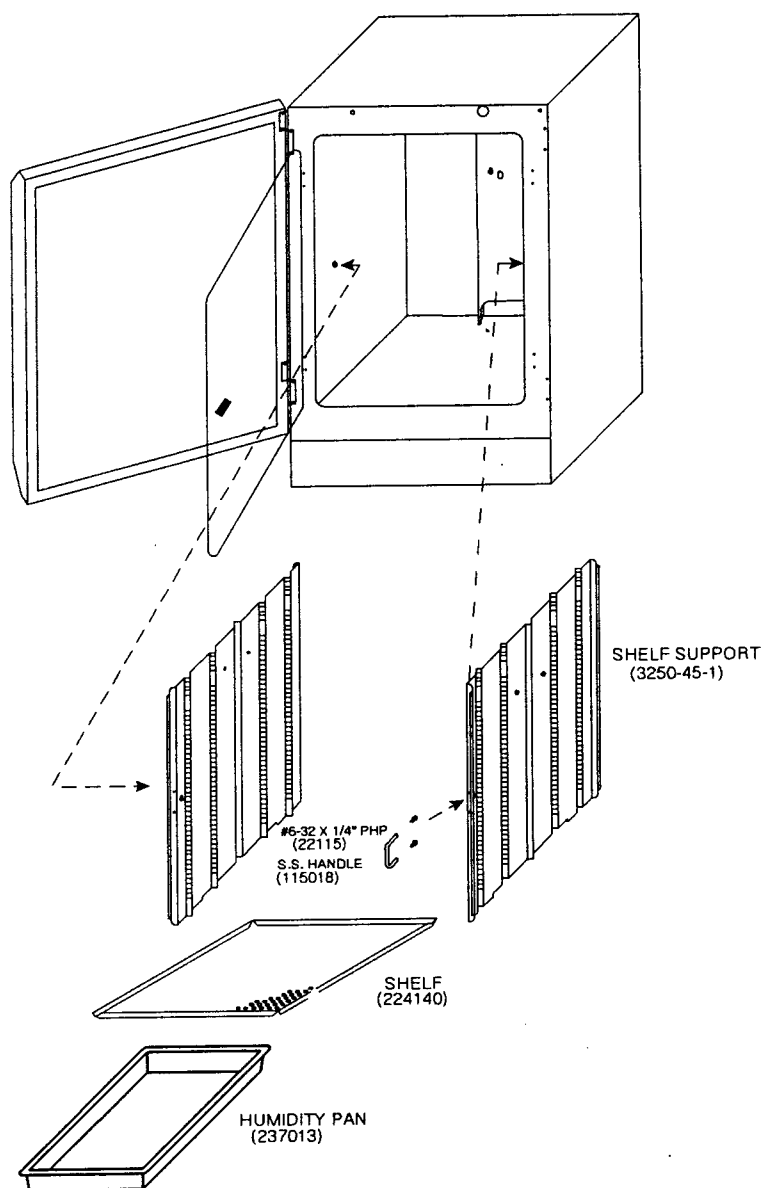

Figure 2.2
2.5 Installing the Shelves (Refer to Figure 2.2)